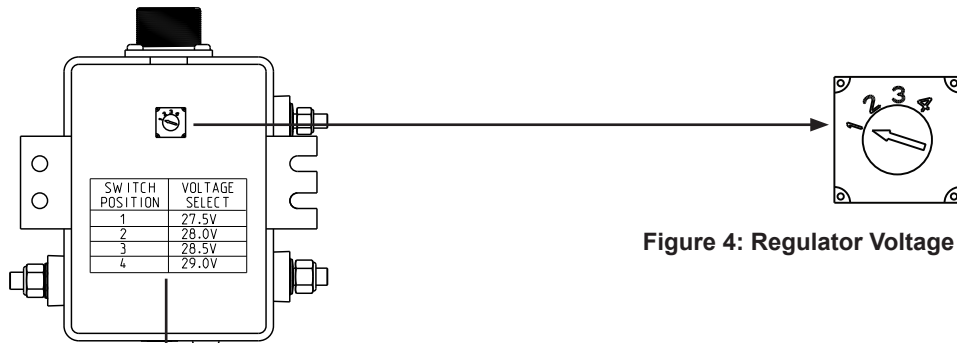

Figure 4: Regulator Voltage Selection Switch
1. Turn regulator over and make sure set point of switch at bottom of regulator is appropriate for type of battery used in vehicle . If necessary, change switch set point. See Figure 4 and Table 1 for voltage set point options.